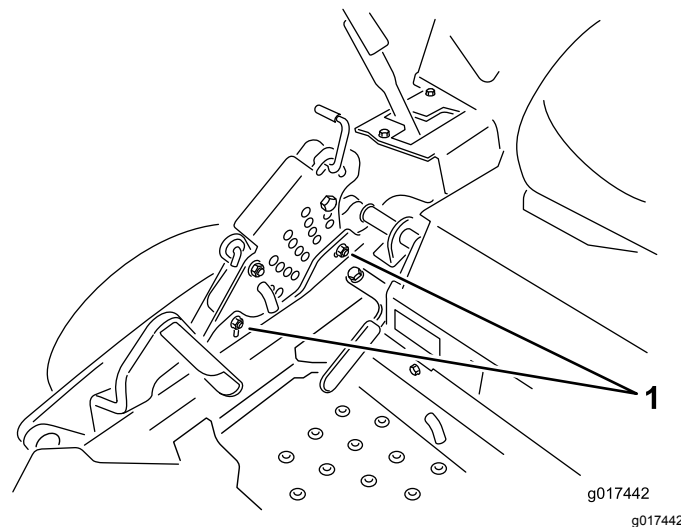

Figure 79
12. To adjust the single-point system, loosen the 2 bolts at the bottom of the height-of-cut plate (Figure 79).
14. Tighten the 2 bolts at the bottom of the height-of-cut plate (Figure 79).